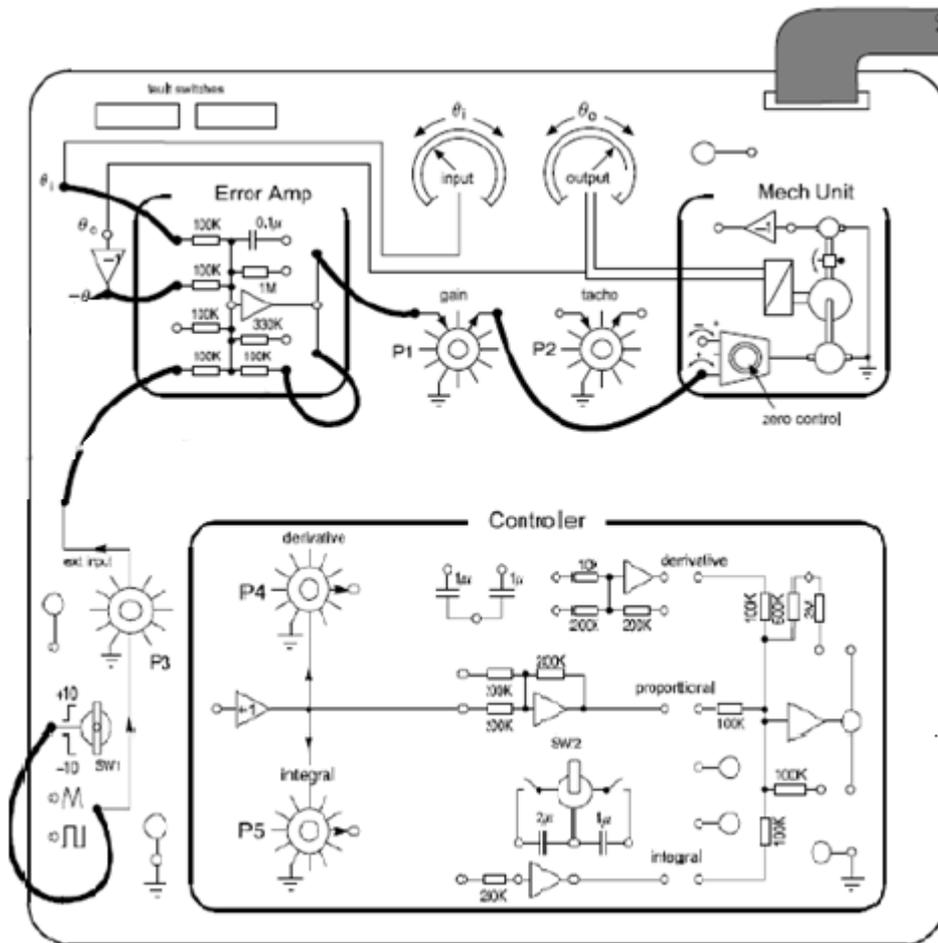

Figure 13. Connection for PART III.
1. Arrange the system with the solid connections of Figure 13, with the error amplifier feedback resistor 100 k, giving $G = 1$.